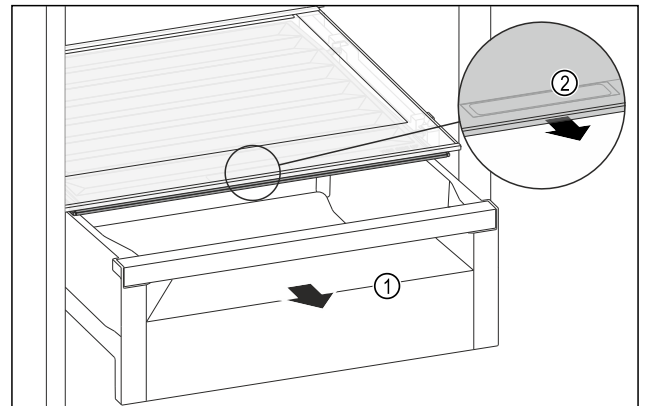

Fig. 161
- ▶ Pull out the drawer Fig. 161 (1).
- ▶ Grasp the recessed grip Fig. 161 (2) on the compartment lid and pull the compartment lid forwards at the same time.